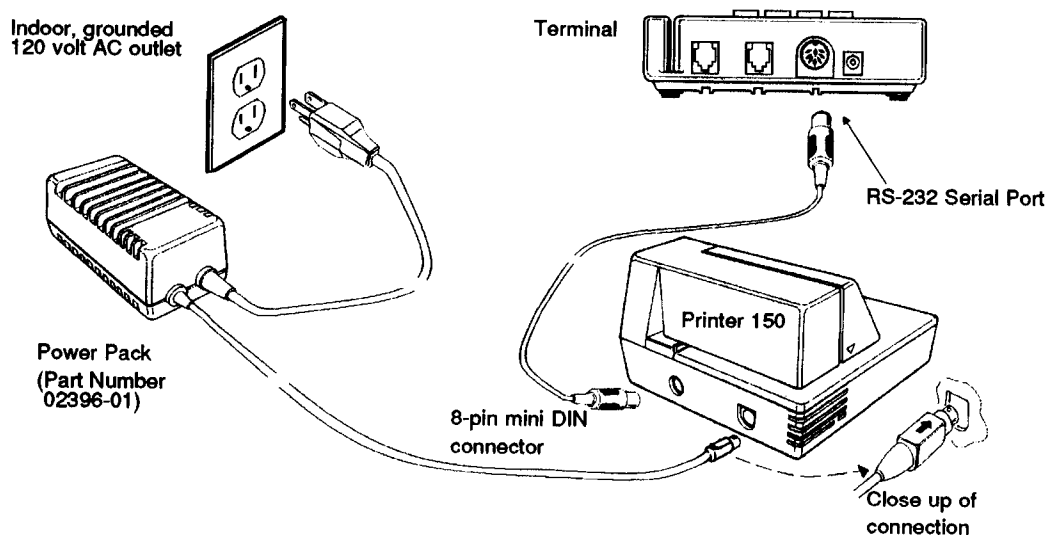
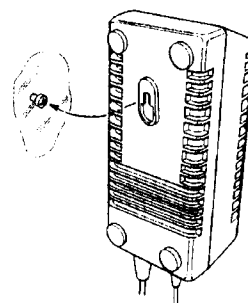

Figure A-5. Printer 150 Connections
Figure A-6. Wall Mount Option
1. Connect the small plug from the printer power pack to the power connector on the rear of the Printer 150. Ensure that the flat surface is up (arrow facing forward), as shown in Figure A-5).
Note: Figure A-5 depicts power pack with part number 02396-01. If power pack with part number 10890-01 is used, the power cord will appear from the opposite side of the power pack (as in Figure A-6); however, this does not effect the connections.
To avoid damage to the printer power pack caused by the inadvertent spilling of liquids into the ventilation holes, the power pack can be mounted on the wall or underneath a counter (see Figure A-6).